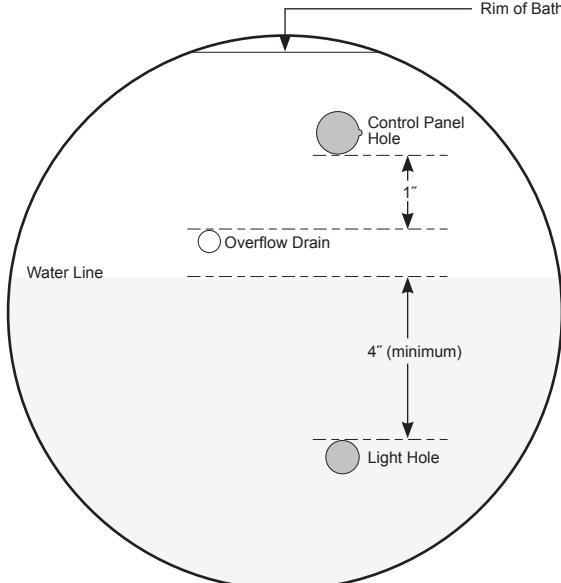

Figure 3 - Hole Pattern
- 3** Mark the center line of the two-hole pattern (Figure 3). It is critical that the  $\frac{5}{32}$ " diameter notch hole be located correctly or the control panel will not be centered and straight.